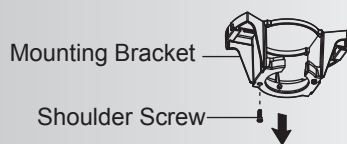

Fig. 13
Step 1. Remove one of the two shoulder screws in the mounting bracket. Loosen the second shoulder screw without fully removing it. (Fig. 13)